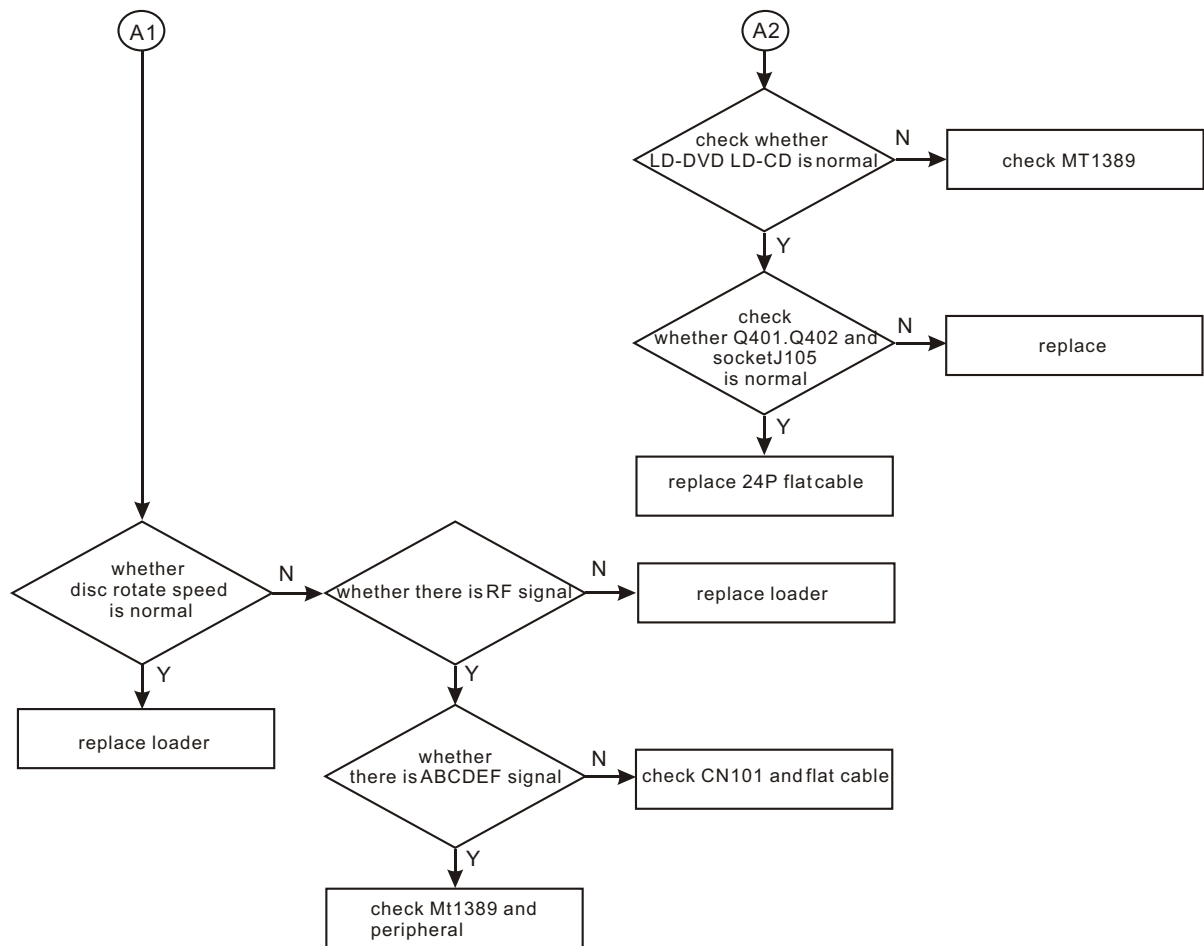

Figure 3.3.2.2 Troubleshooting flowchart of “disc-reading is not available
4、Troubleshooting flow chart of “DVB has no function” is shown in figure 3.3.2.3: